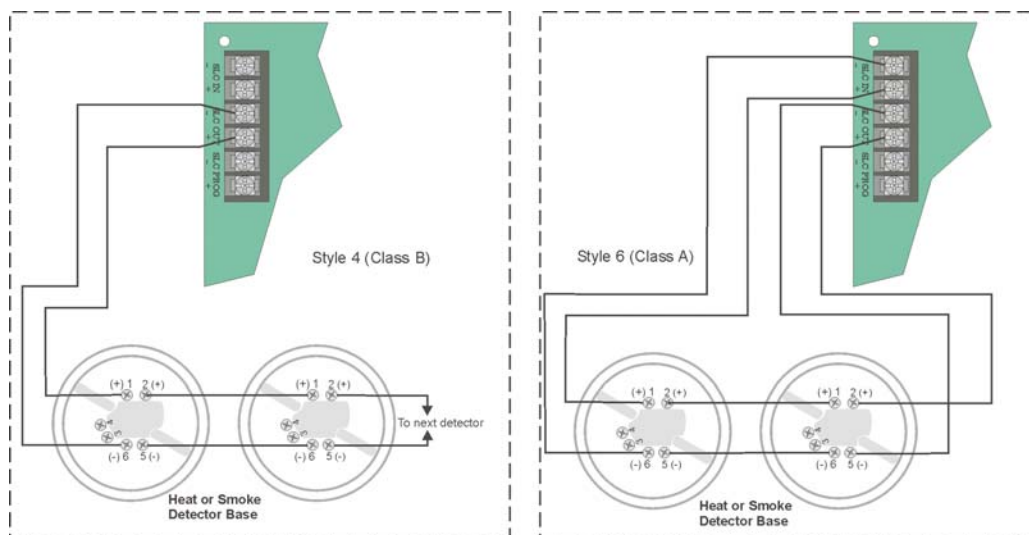

Figure 5-4 Heat or Smoke Detector Connection to the FACP
1. Wire device bases as shown in Figure 5-4.
3. Connect the device as shown in Figure 5-4.